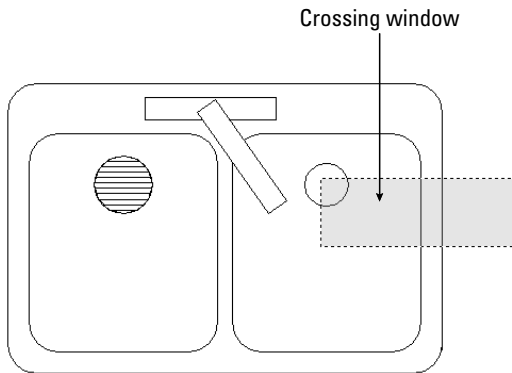
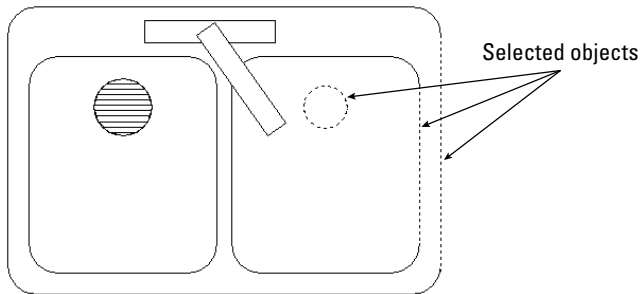

**Figure 9-15:** Selecting objects with a crossing window. The crossing window selects any objects that lie within or partly within the window.
**Figure 9-16:** The selected objects are highlighted.
- ♦ **Crossing:** Crossing enables you to pick two diagonal corners that define a window. All objects entirely or partly within the window are selected. As you move your mouse to specify the second diagonal corner, a green transparent rectangle appears to help you preview which objects will be selected. Figure 9-15 shows the process of picking the window. Figure 9-16 shows the result — the selected objects are highlighted.